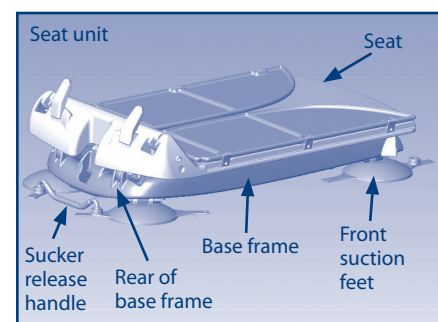

Figure 7
- iii) The suction feet may not be suitable in baths that have been re-enamelled or that have rippled or textured surfaces. For some baths with rippled or textured surfaces, the front suction feet (see fig 7) can be relocated to the middle of the bath lift base frame, to clear the bath's textured area. A centre sucker fixture kit is available, if required (see section 16).
- iii) Pick up the seat unit (see fig 7). The rear of the base frame forms a useful handhold for this purpose.
NOTE: Never use the sucker release handle (see fig 7) to carry the seat unit.